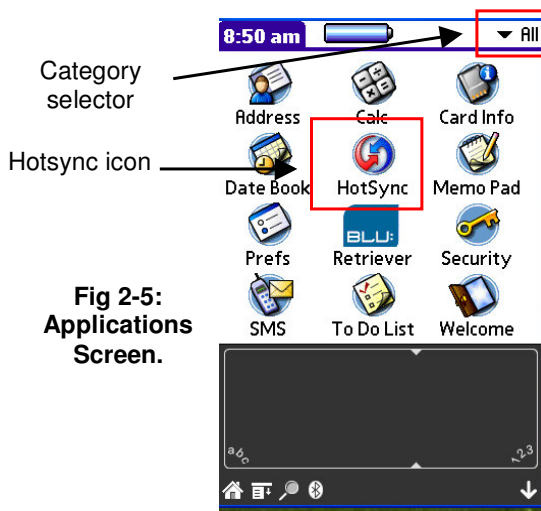

Fig 2-5:
- If cradled, press the button at the base of the handheld cradle (fig 2-3). If you are not using a cradle, tap on the HotSync icon from the applications listed on the application launcher (see figure 2-5).
Note: If you cannot locate the Hotsync icon, tap on the 'house' button near the bottom of the handheld's display. This will show the application launcher screen. The application launcher is a series of icons (see figure 2-5). If you still cannot find the HotSync icon, locate the category selector in the upper right corner of the screen. It may list All, Games, System, Main, Utilities or Unfiled. Tap the category selector and select **System** from the drop down menu. The HotSync application is by default within the System category.